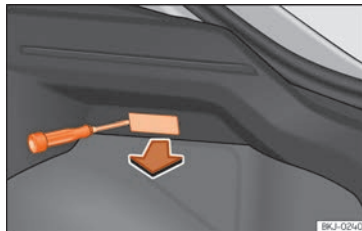

Fig. 57 Boot light.
- Extract the bulb by pressing on its inside edge using the flat side of a screwdriver »» Fig. 57.